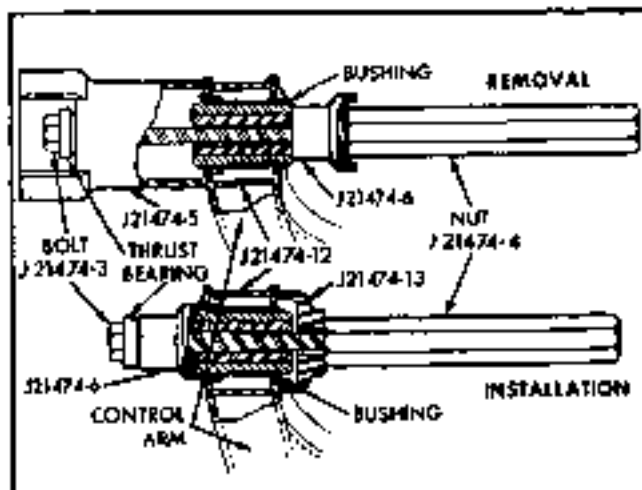

Fig. 3-22 Lower Control Arm Rear Bushing - Firebird
2. Remove bushing from control arm by arranging tools as shown in Fig. 3-22.
1. Install bushing in control arm by arranging tools as shown in Fig. 3-22.